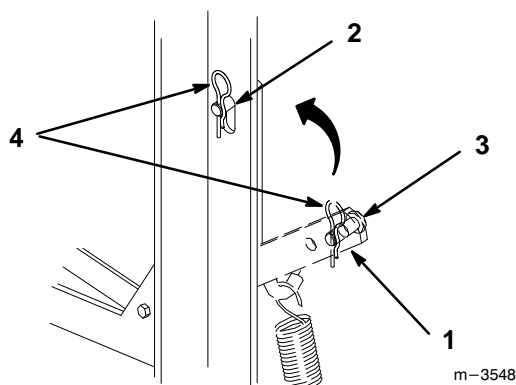
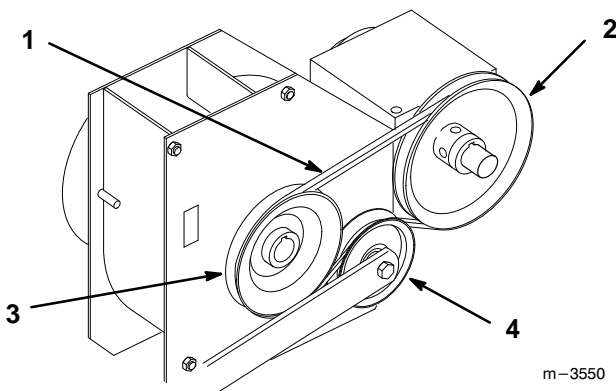

Figure 25
Figure 28
2. Remove hairpin cotter and clevis pin from outer hole in idler arm (Fig. 25).
3. Push up on the spring loaded idler arm, behind PTO (power take off) gearbox, to relax pressure on blower belt (Fig. 25).
2. Push up on the spring loaded idler pulley behind PTO (power take off) gearbox to relax pressure on blower belt (Fig. 28). Lock into frame slot, refer to (Fig. 25).
4. Install new blower belt around PTO gearbox and blower pulleys. Then push up on the idler and place belt above idler pulley (Fig. 28).
5. Check that belt aligns with PTO, blower and idler pulleys (Fig. 28).